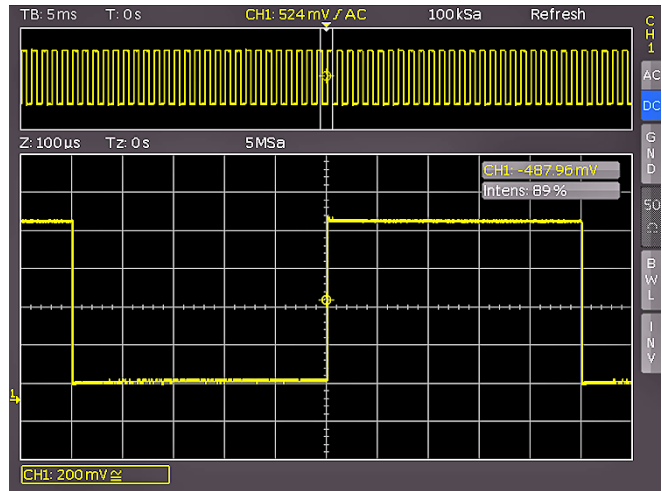

Fig. 5.5: Zoom function
The R&S®HMO Compact series features a memory depth of 1 MByte per channel. This allows the user to record long and complex signals which can be analyzed in full detail with the Zoom function. To activate this feature, press the ZOOM key (40). The screen will be divided into two sections. The upper window displays the entire time base window whereas the lower graticule shows an enlarged section of the upper window. The enlarged signal section is marked by two blue cursors in the original signal (upper window). If several channels are activated in Zoom mode, all displayed channels will be zoomed simultaneously by the same factor and at the identical position. Fig. 5.5 displays the Zoom window with 100µs per division. The signal was captured within a time window of 12ms. The zoom area (lower grid) also displays the parameter for zoom time base whereas time is displayed above the zoom window. Z indicates the zoom time base (zoom factor) and determines the width of the zoom area displayed in the zoom window (10 divisions x scaling per division). Tz indicates the zoom time and determines the position of the zoom area. The time base setting in the upper right of the display is highlighted in gray while the zoom time base above